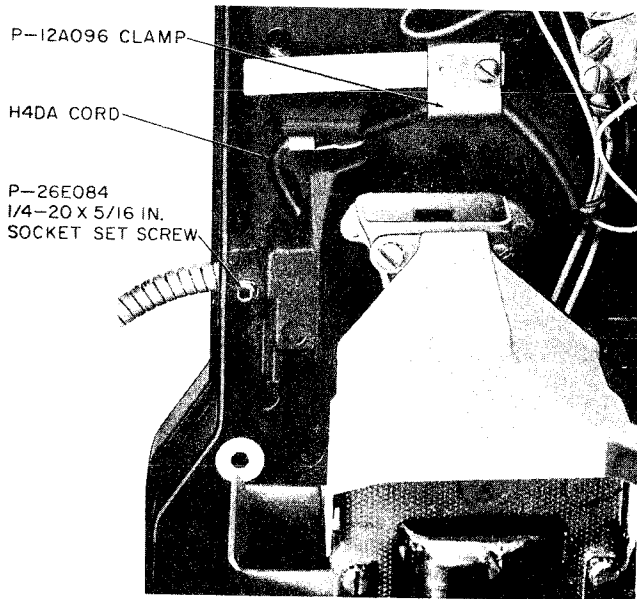

Fig. 29— Installation of Armored Cord
- (7) Clean metal shavings from the cord entrance hole.
- (8) Using the pull-in wire placed in step 3, pull in new cord.
- (9) Remove the pull-in wire from the new cord and fasten the P-12A096 clamp over the cord (Fig. 29).
- (10) A P-26E084 1/4-20 by 5/16-inch self-locking setscrew is used to secure the cord to the coin collector backplate (Fig. 29). A flat surface is located approximately 1/4-inch from the set end of the stainless steel flexible hose. Using a 1/8-inch Allen wrench, screw the socket setscrew into the hole drilled in step 5 until it just makes contact with the flat surface of the metal hose. Give the setscrew one full turn. This should hold the cord firmly in the coin collector.